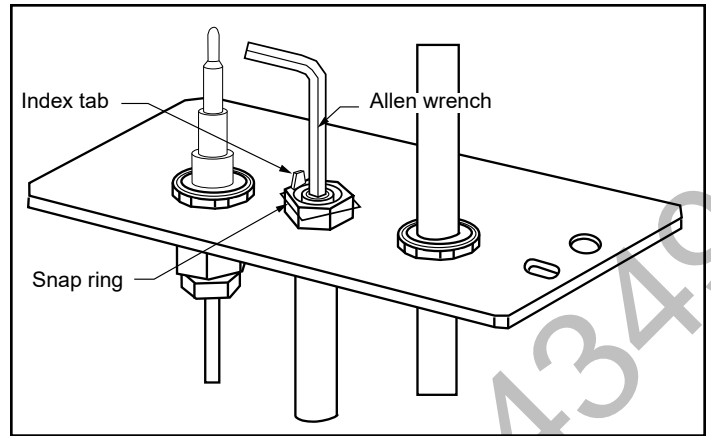

Figure 80 - Remove pilot orifice.
- Remove pilot orifice with a allen wrench. (Figure 80)